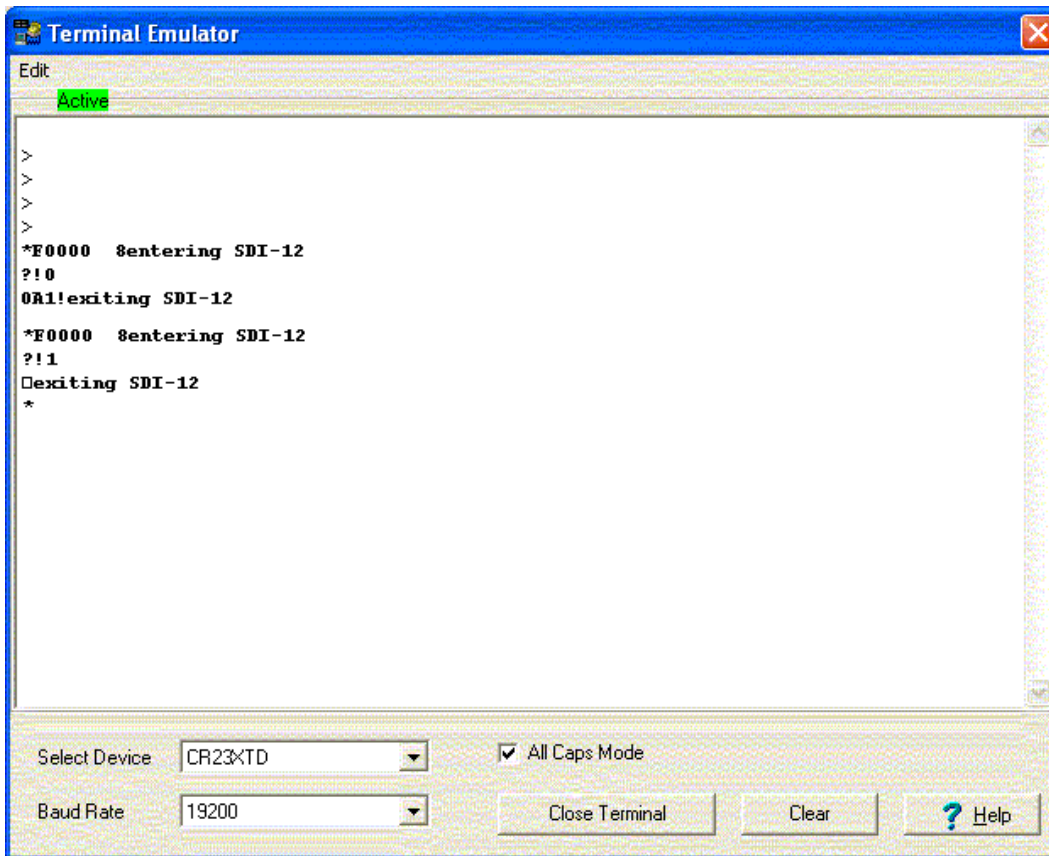

FIGURE 3. Screen Capture of the SDI-12 Transparent Mode on an Edlog Table-Based Datalogger using Control Port 8 and Changing the SDI-12 Address from 0 to 1
- Click inside the “Terminal Emulator” window and press the <enter> key until the TD datalogger responds with the “>” prompt (Figure 3).